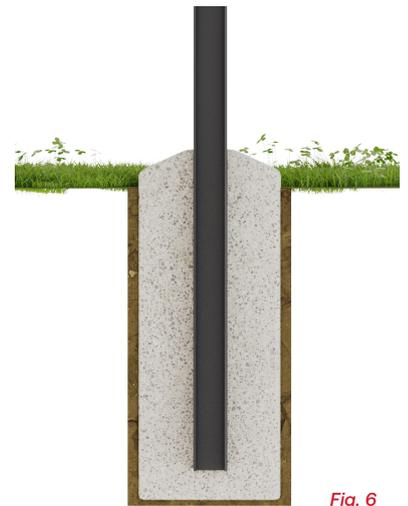

Fig. 6
5. Slope the top of the concrete to allow water to drain away from the post. *Fig. 6*